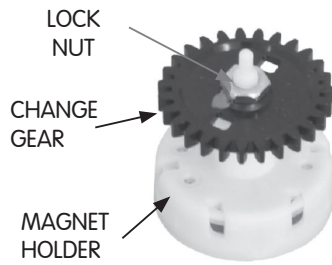
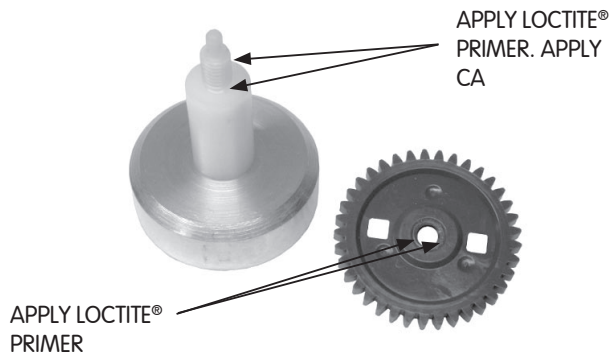

Figure 22. Magnet holder, change gear, and lock nut
Figure 23. Magnet holder and change gear adhesive application for 3.5M meter.
- v) Unscrew the change gear from the magnet holder (THREADS ARE LEFT HAND) [Figure 22].
- (1) For 3.5M meters
- (a) Apply Loctite® 770 primer to the threads and mating surfaces of the change gear and the magnet holder [Figure 23]. Allow to dry for 30 seconds.
- (b) Apply Loctite® 406, Loctite® 495, or equivalent Cyanoacrylate adhesive to the threads and mating surface of the magnet holder [Figure 23]. Do not get the adhesive on the small tip of the magnet holder.
- (2) For 5.5M meters